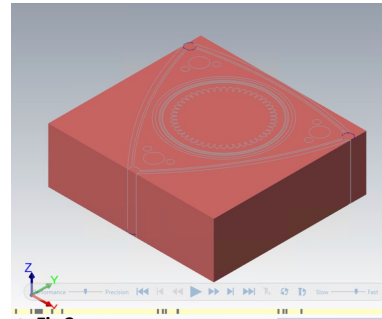

Fig 2.
- The stock is set up and dimensioned to match the original model, allowing for less excess material (**Fig 2**).